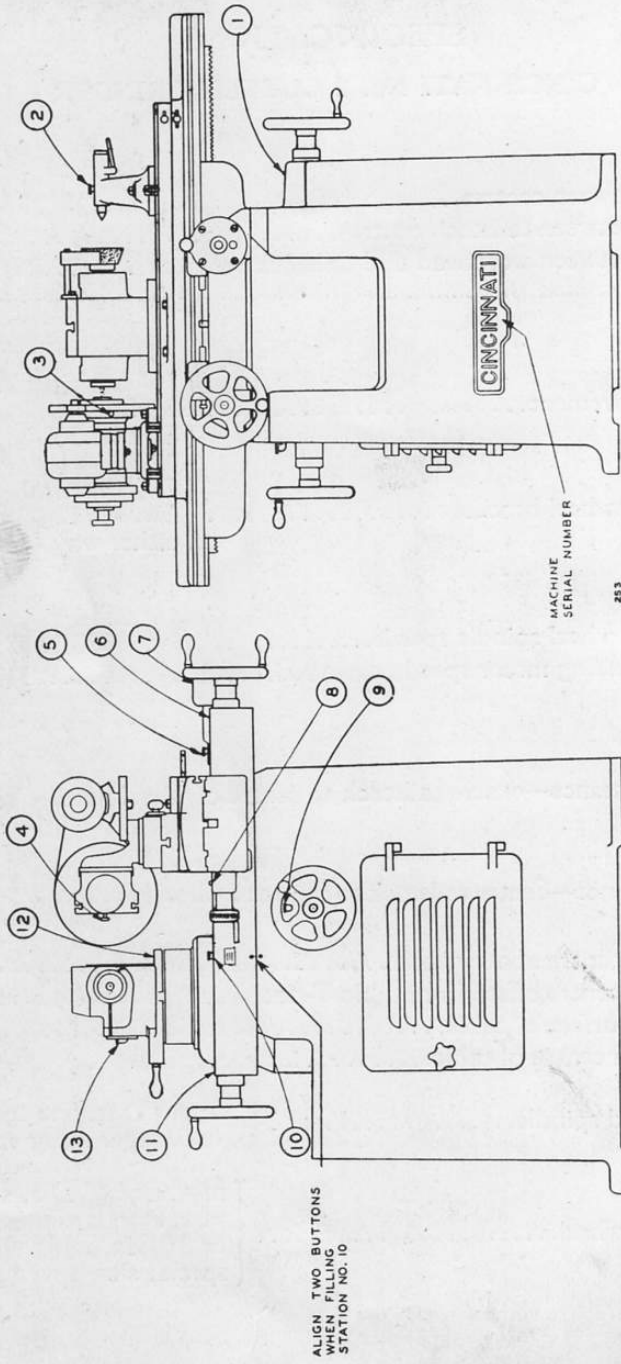

Fig. 1
**Starting the Machine.** Before starting the machine for the day's work, fill all the oil holes and cups shown on the lubrication chart, Fig. 1. When oiling the cross screw nut (Station 10) be sure to line up the two buttons, as specified on the instruction plate.